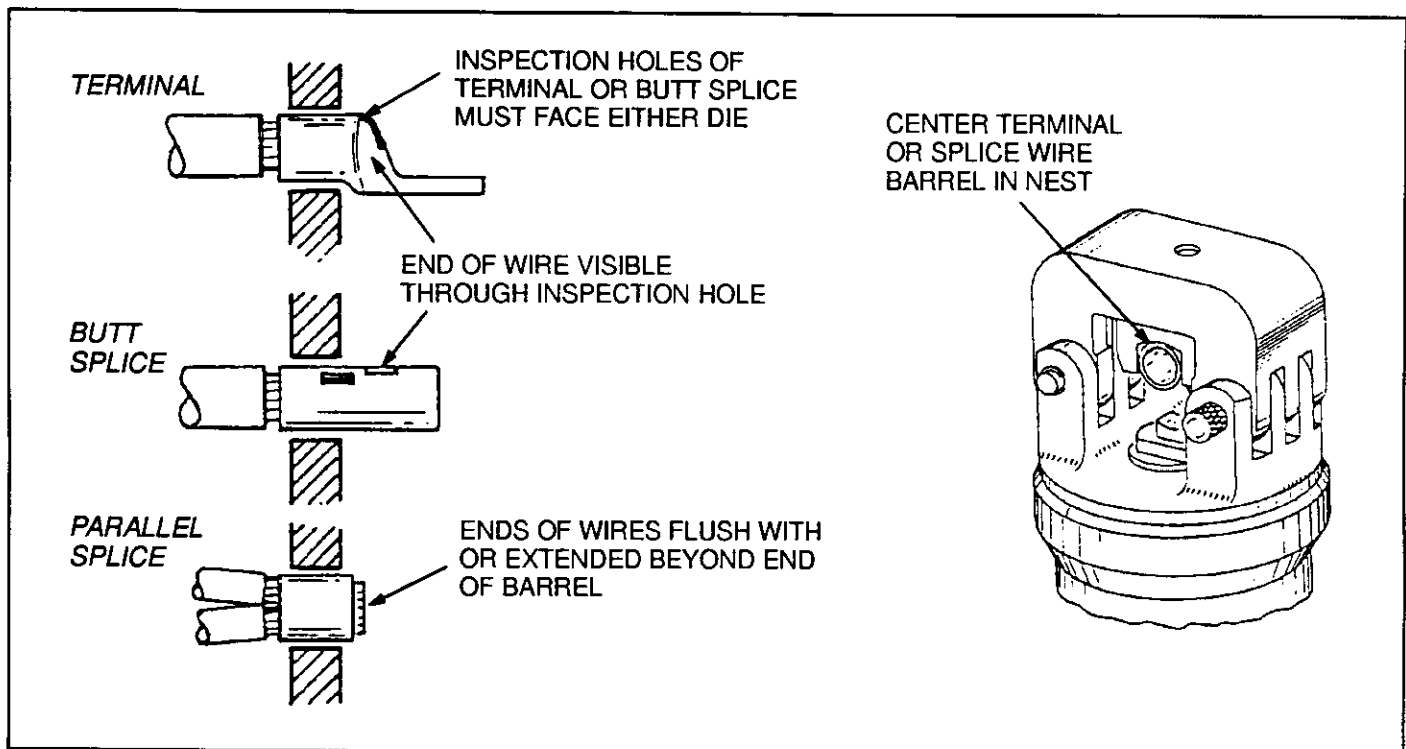

Fig. 4
4. CRIMPING PROCEDURE (Figure 4)
If crimping a terminal butt splice, ensure that inspection hole(s) of face either die. See Figure 4.